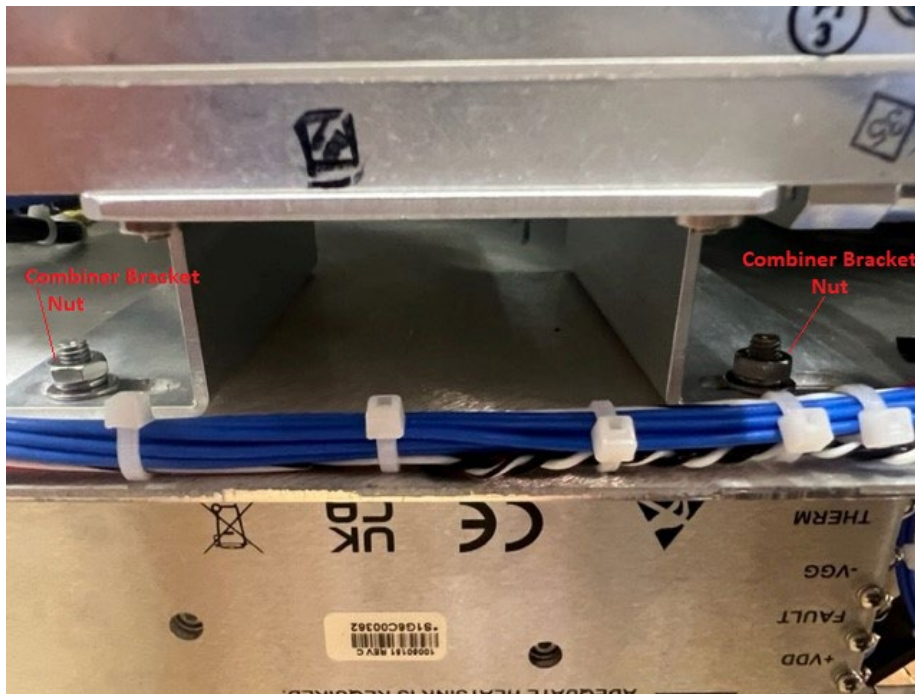

Figure 6
9. With a 11/32" wrench, loosen the four combiner bracket nuts. The two front nuts are displayed in Figure 6 below.